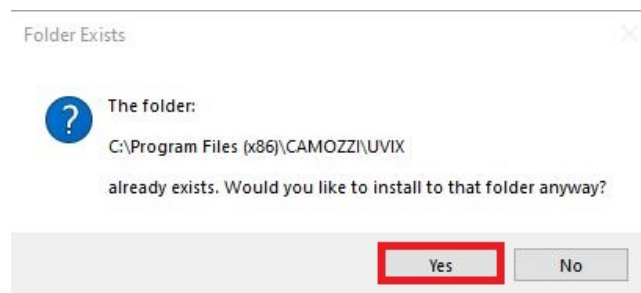

Figure 4.14: Confirm Destination Folder
4. If the folder already exists, confirm that you want to proceed by clicking "Yes," as shown in figure 4.14.